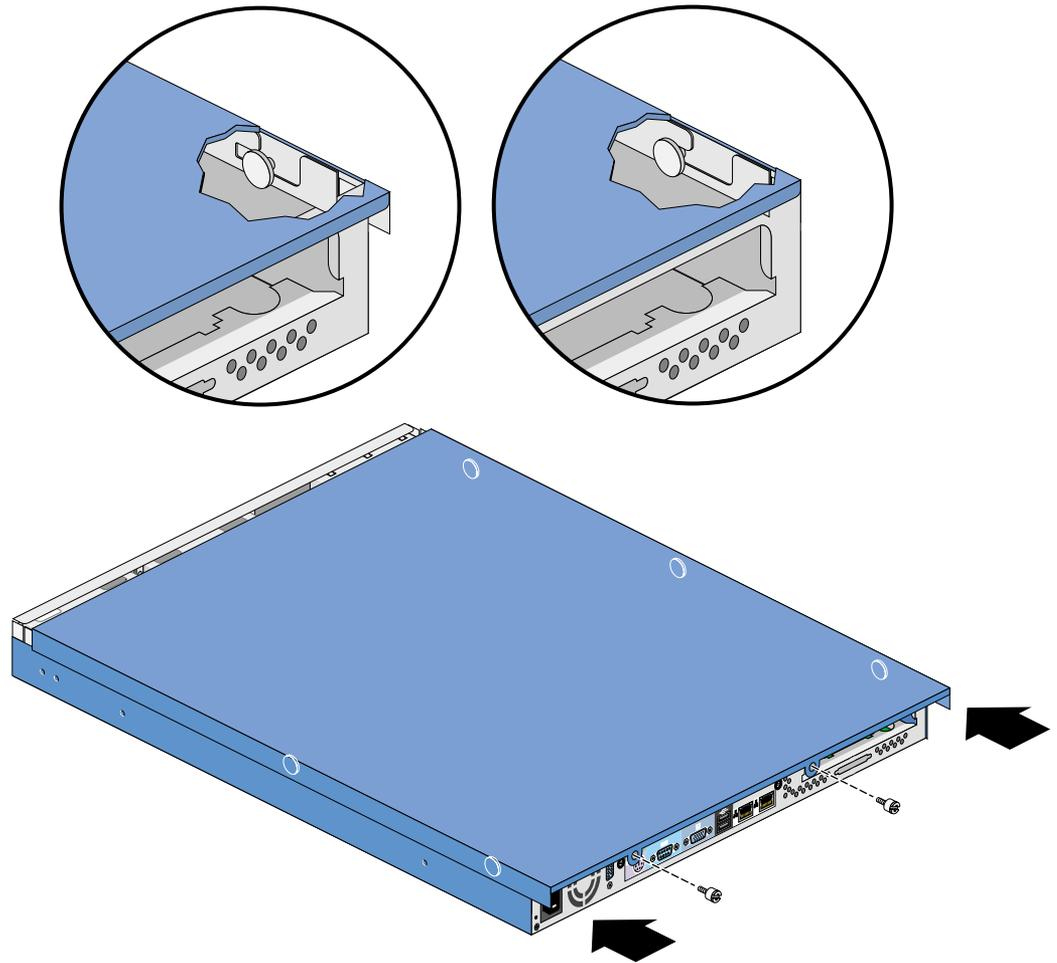

Figure 2-2 Placing the Chassis Cover on the Chassis
2. Place the chassis cover on the chassis, so as to insert each of the six retaining pins into their slots as shown in Figure 2-2.
3. Ensure that all six retaining pins are fully engaged into their slots, and then slide the chassis cover toward the front of the system, as shown in Figure 2-2.